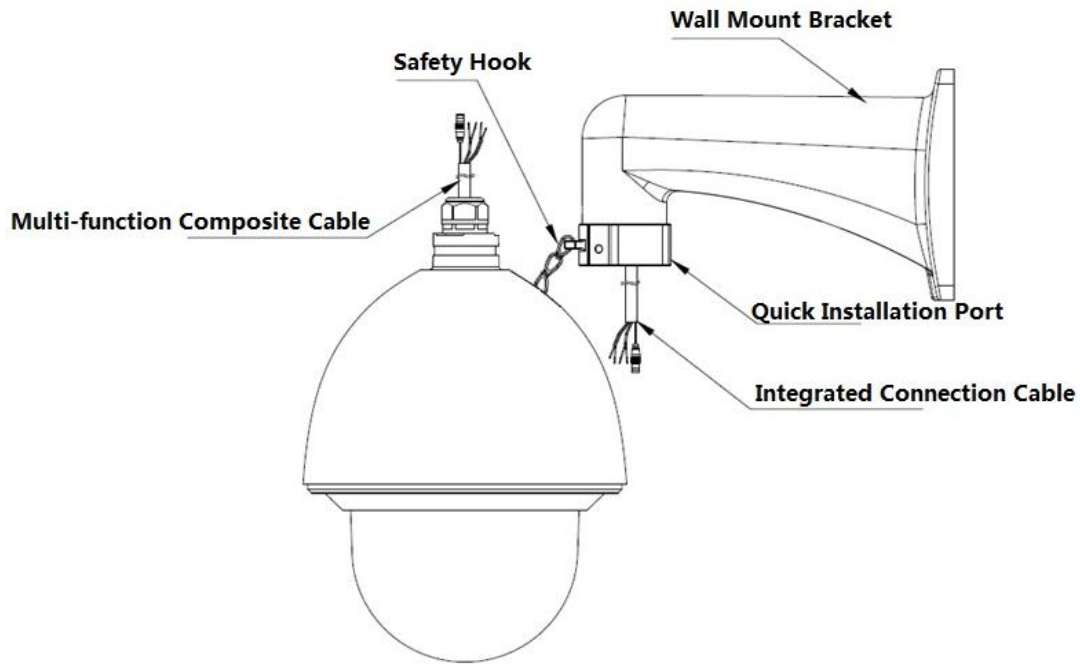

Figure 1-18
- Connect the reserved integration cable of the wall mount bracket to the corresponding power cable, video/audio cable, RS485 control cable, alarm port, high frequency cable, fiber cable (if necessary) of the multiple-function composite cable of the intelligent speed dome. Paste the insulating tape in the connection position to do the proper waterproof work. See Figure 1-18.